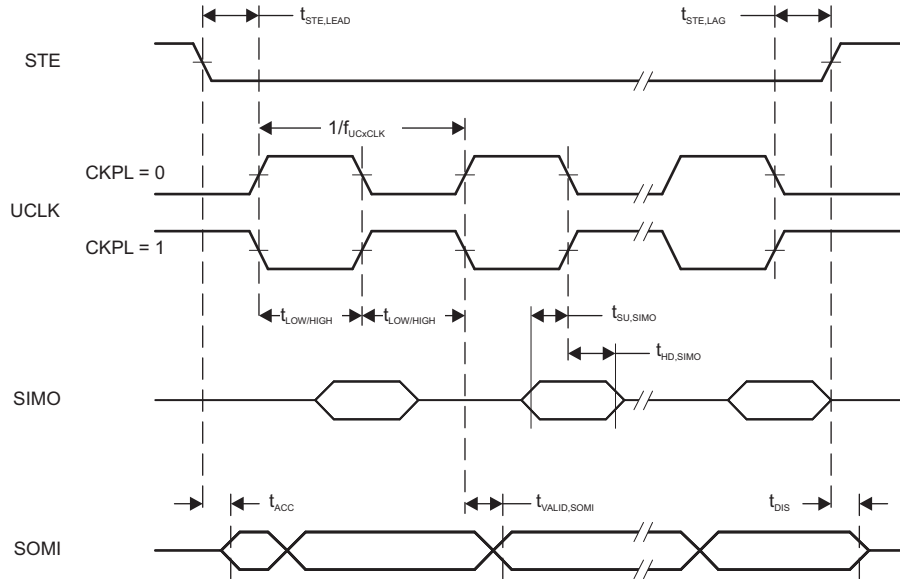

Figure 5-13. SPI Slave Mode, CKPH = 0
(2) Specifies the time to drive the next valid data to the SOMI output after the output changing UCLK clock edge. See the timing diagrams in Figure 5-13 and Figure 5-14.
(3) Specifies how long data on the SOMI output is valid after the output changing UCLK clock edge. See the timing diagrams in Figure 5-13 and Figure 5-14.